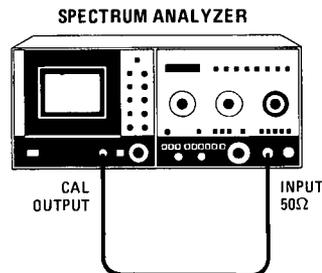

Figure 5-6. Orthogonality, Trace Alignment and Pattern Adjustment Test Setup
- c. Connect 100 MHz CAL OUTPUT signal to front panel INPUT 50Ω connector (see Figure 5-6).